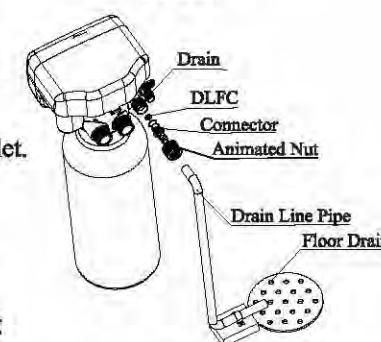

Figure 5
⑤ Install drain pipeline
- a. As the Figure 5 shows, Insert drain line flow control into drain outlet.
- e. Locate the drain hose well as the Figure 5 show.
- Be sure not connect drain pipeline with sewer, and as Figure 5 shows, there is a certain space leaved between them to avoid wastewater being absorbed to the water treatment equipment.